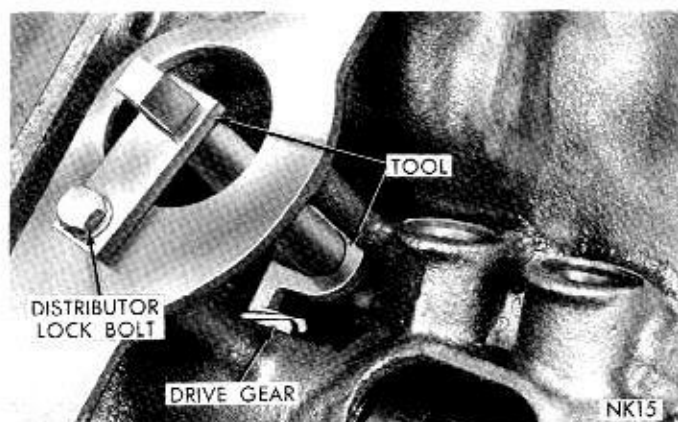

Fig. 20—Camshaft Holding Tool C-3509
When installing timing chain, use Tool C-3509 to prevent camshaft from contacting the welch plug in the rear of engine block. Remove distributor and oil pump-distributor drive gear. Locate tool against rear side of cam gear and attach tool with distributor retainer plate bolt (Fig. 20).
- (1) Lubricate camshaft lobes and camshaft bearing journals and insert the camshaft to within 2 inches of its final position in cylinder block.
- (2) Install Tool C-3509 with tongue back of distributor drive gear, (Fig. 20).
- (3) Hold tool in position with distributor lock plate screw. This tool will restrict camshaft from being pushed in too far and prevent knocking out the welch plug in rear of cylinder block. **Tool should remain installed until the camshaft and crankshaft sprockets**